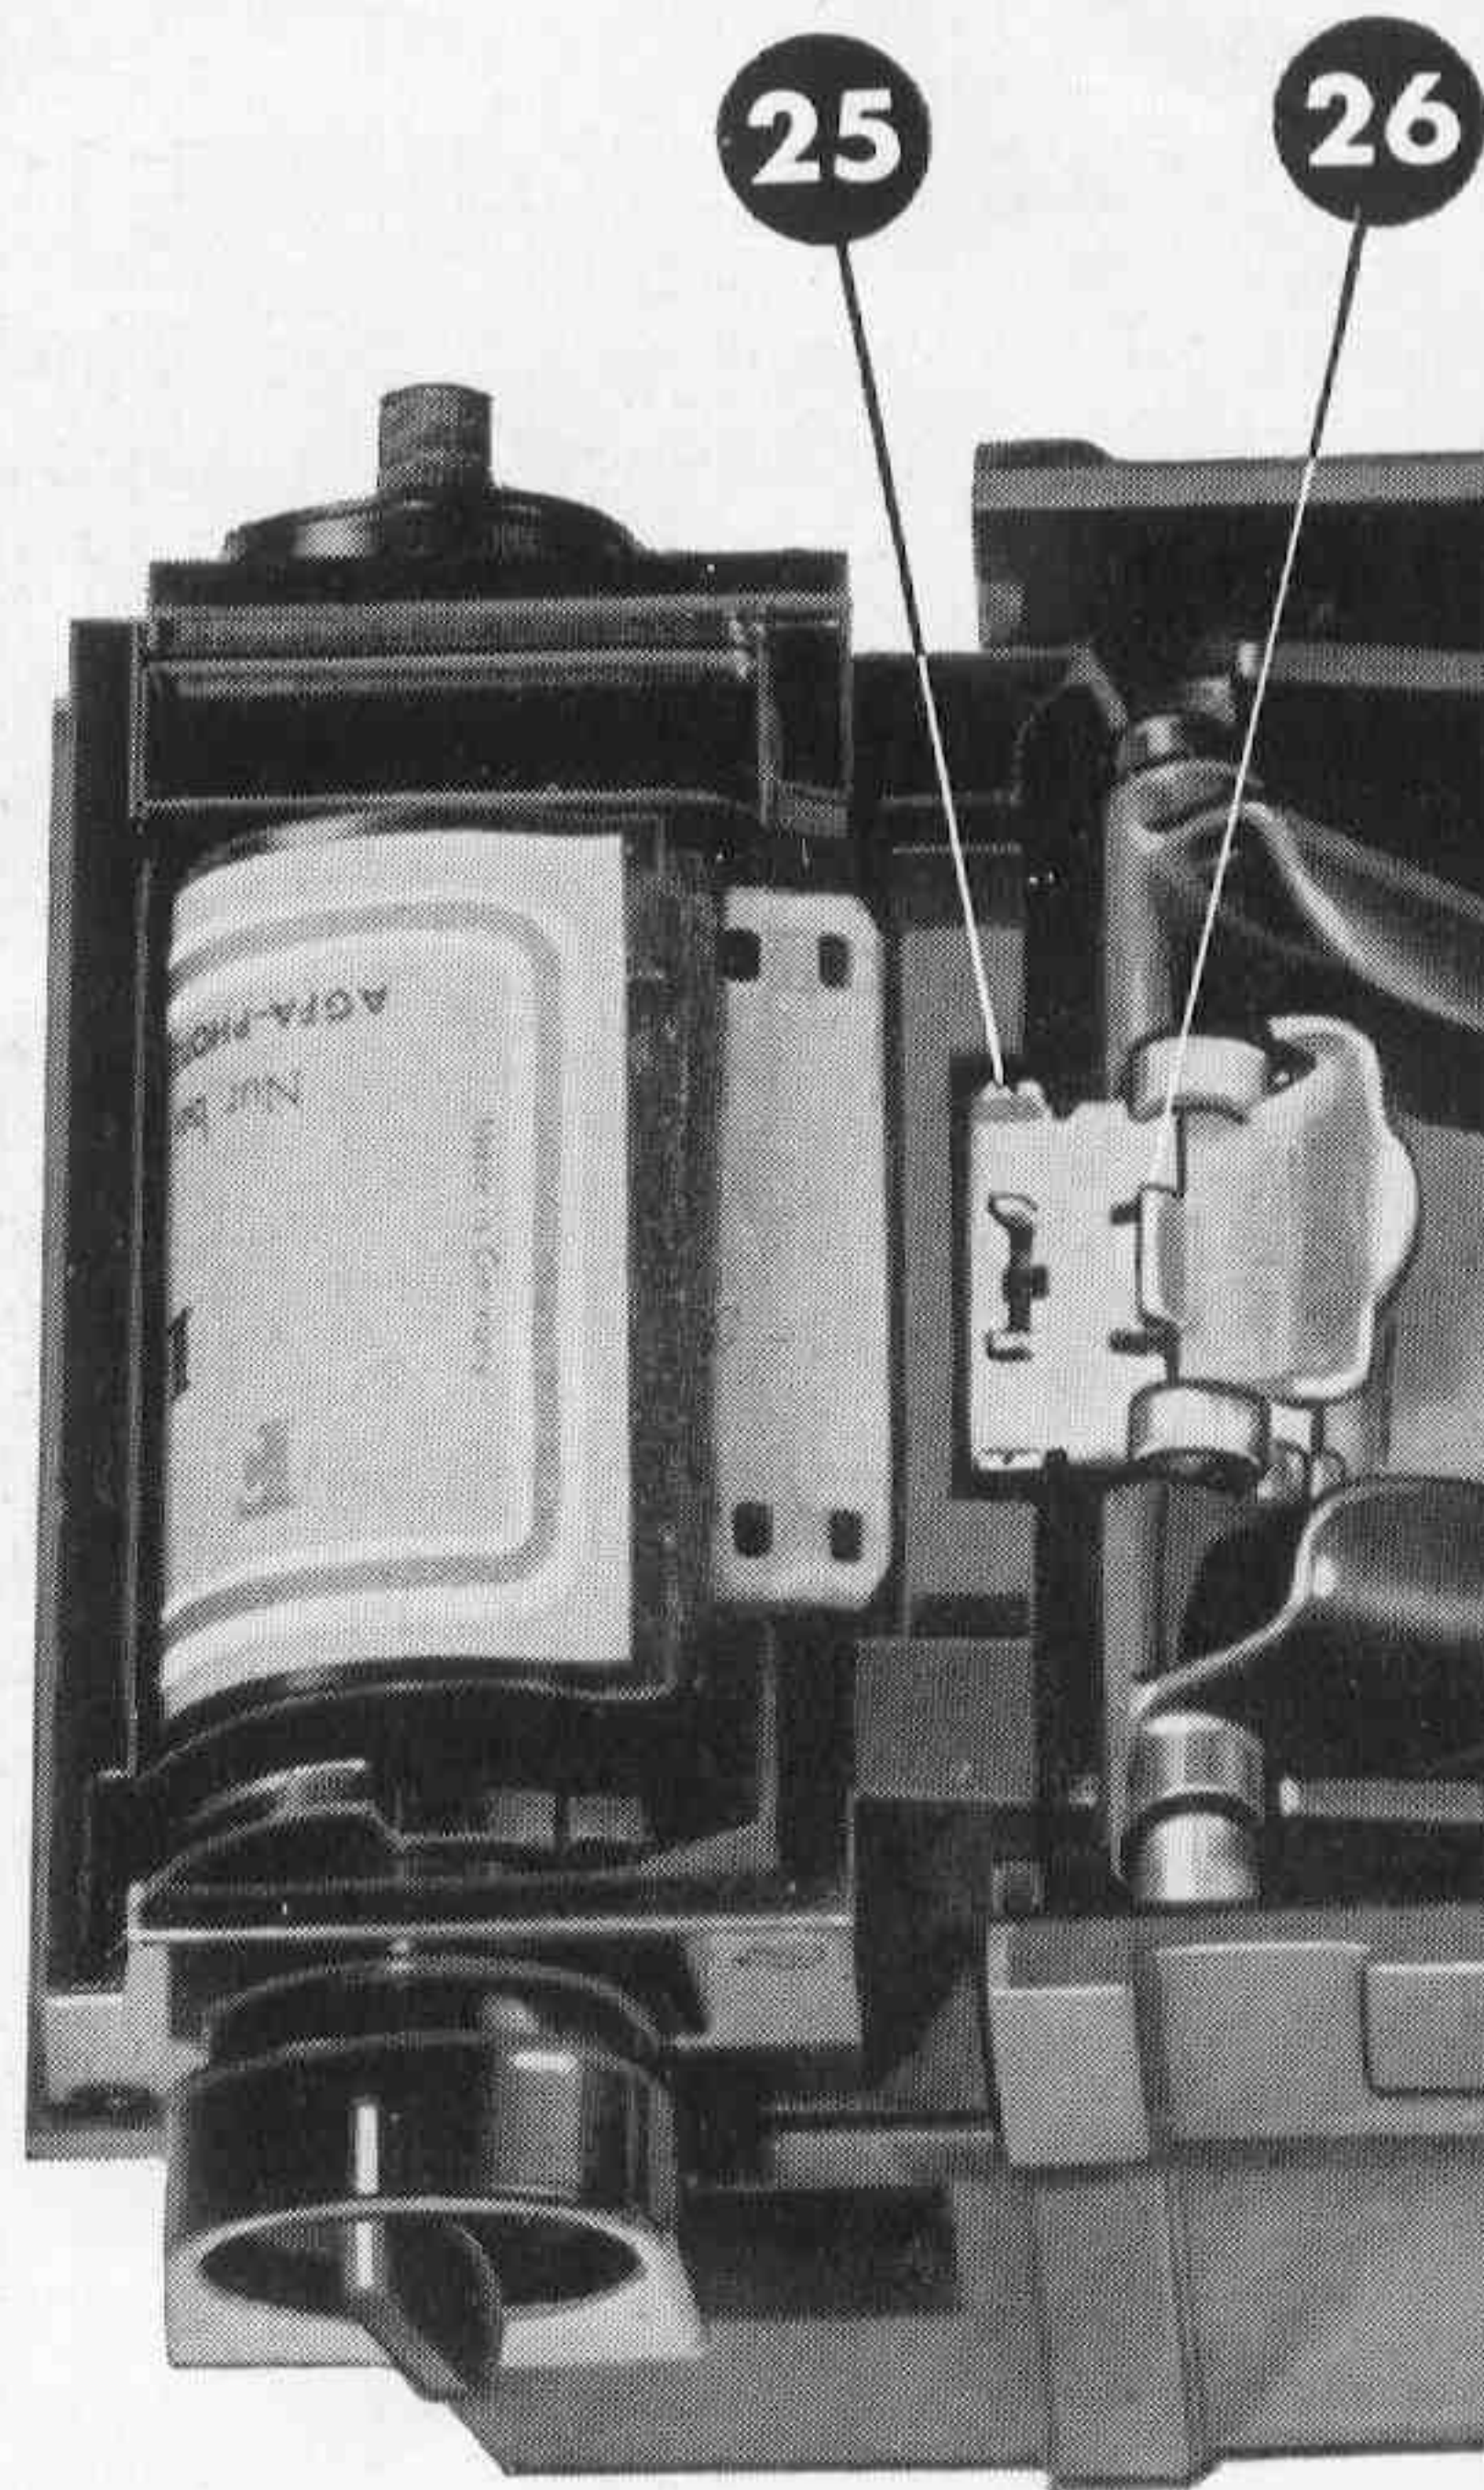

Fig. 6
To enable the tension band with its attached film clip to be more easily withdrawn the film guide (24) can be removed (see Fig. 5); however, do not on any account forget to replace it immediately as shown in Fig. 5. Open the film clip (26) attached to the tension band and lay it in the recess (25) (see Fig. 6) provided in the centre partition of the tank. With the left hand place the leading edge of the film up against the hinge of the open clip, holding the clip in the right hand. In closing the clip press the jaws firmly together to ensure that the end of the film is perforated and so held securely. Take care that the film is central in the clip, projecting an equal amount on both sides.